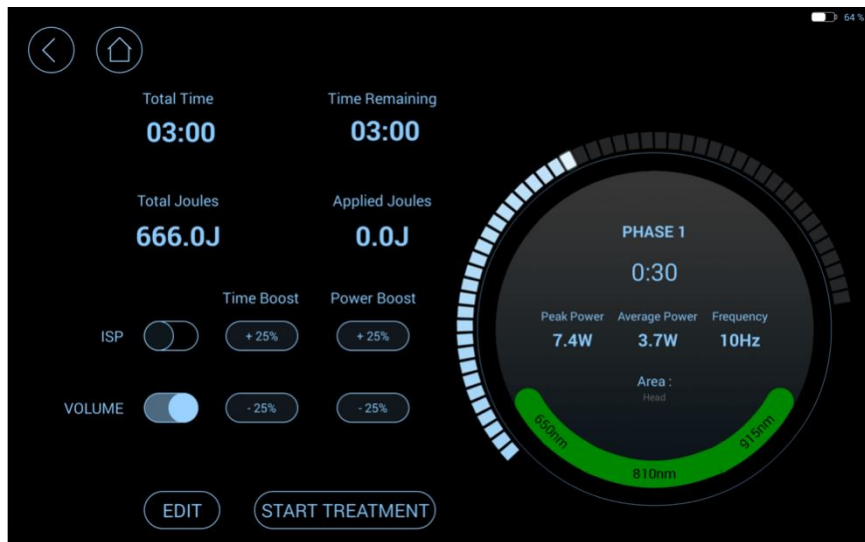

Figure 7. Operation interface of protocol
7. After customizing a specific protocol, enter the treatment screen of that protocol (Figure 7).